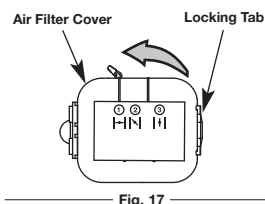

Fig. 17
1. To open the air filter cover, push the locking tab on the right side of the cover inward and pull the air filter cover slightly out and to the left (Fig. 17).